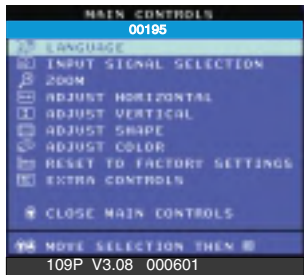
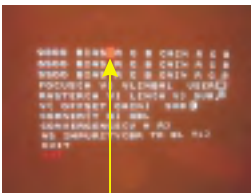
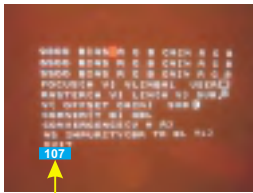

Fig.2.1
Fig. 2.2
Fig. 2.3
Step 1: To select the character "FACTORY MODE" as shown in Fig. 2.1, press " " to access the OSD menu for R/G/B gain & cutoff as shown in Fig. 2.2.
Step 2: Press " " for function selection as shown in Fig 2.3.
Step 3: Use " " to increase or decrease the value as shown in Fig. 2.3.
: Press " " to show the OSD menu as shown in Fig. 2.1.
: Select the character "FACTORY MODE" to access the R/G/B adjustment as shown in Fig. 2.2 and Fig. 2.3.
7.6 : Select the 6500K colour temperature as shown in Fig. 2.2.
7.7 : Select the 5500K colour temperature as shown in Fig. 2.2.